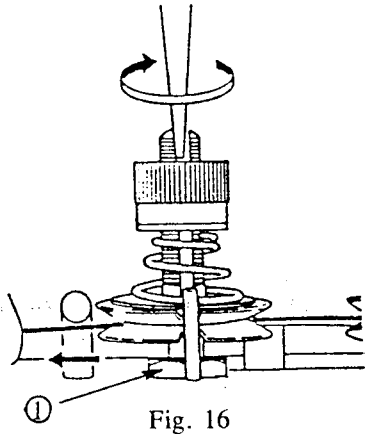

Fig. 16
#### 15. TIMING THE NIPPER RELEASING PLUNGER OF TENSION DISC NO.2 (Fig.16)
The standard motion is, as shown in Fig. 16 to rotate the needle driving pulley toward the arrow direction as you pull the thread and the tension disc No. 2 will float up and the thread will be slipped out quickly.
Insert a screw driver into the tension post No. 2, as shown in Fig. 16, loosen nut ① and rotate the tension post toward the arrow direction.